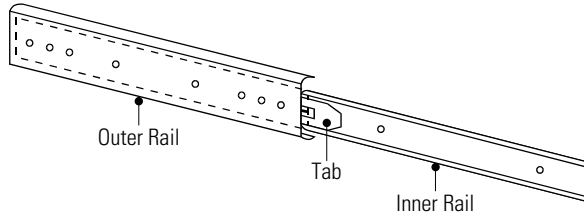

Figure 24. Separating the Rails
1. Separate the two slide rails (the rails are shipped already assembled). To separate, pull the inner rail all the way out. Press down on the tab of the inner rail and continue pulling the rail until it comes apart (see Figure 24).